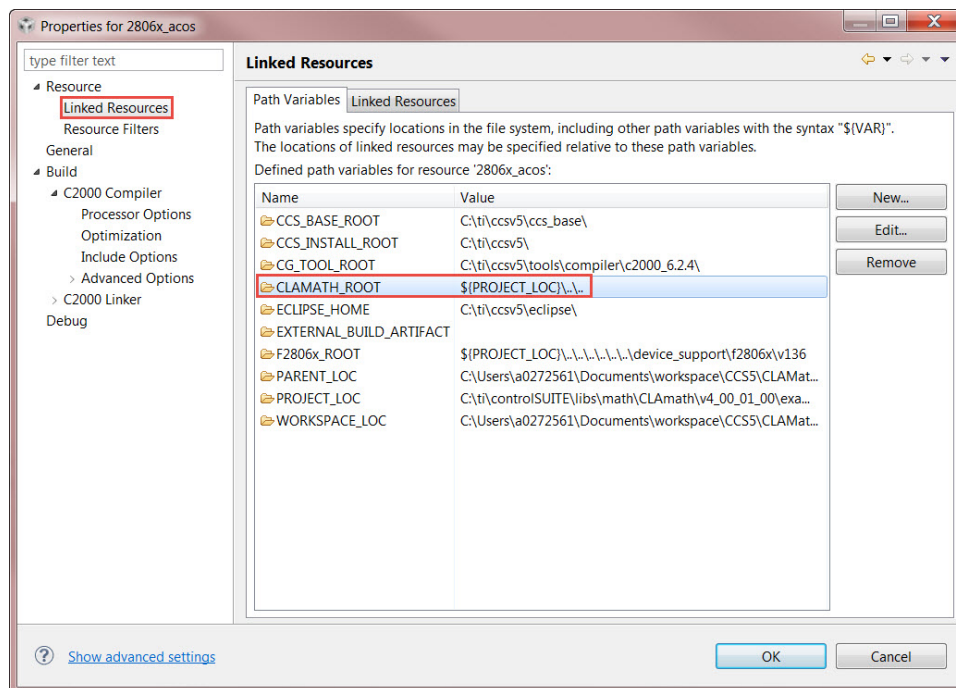

Figure 4.4: Creating a new build variable
1. Go to **Project Properties->Linked Resources** and add a new variable (see Fig. 4.4), CLAMATH_ROOT, and point it to the root directory of the CLA Math library in C2000Ware, i.e. the c28 folder.